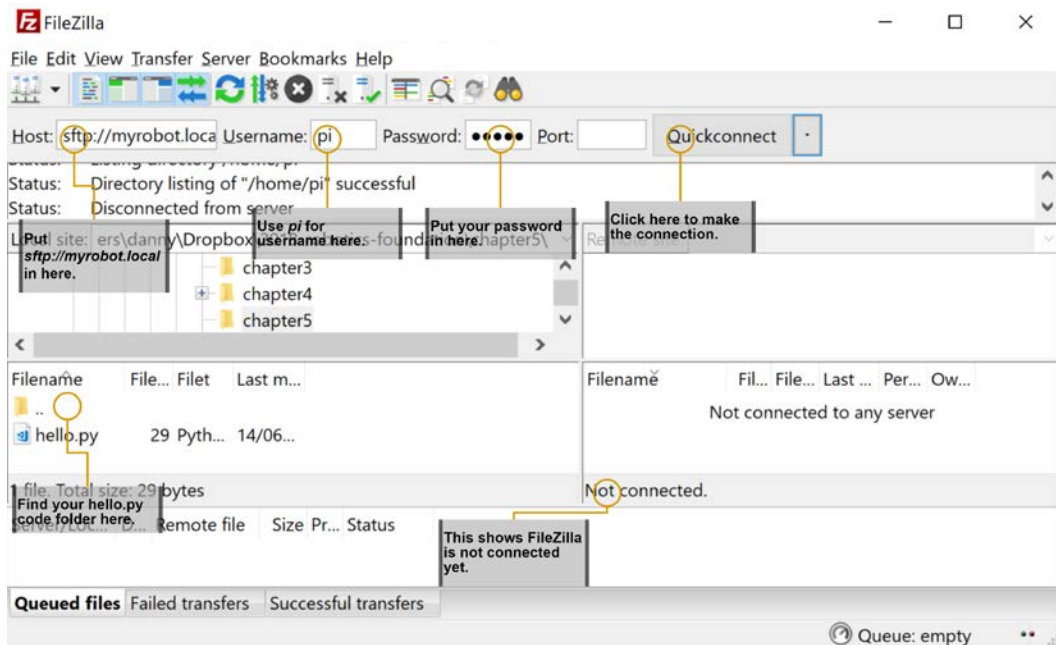

Figure 5.1 – FileZilla
4. Plug in and power up your Raspberry Pi. You will notice at the bottom of the right-hand panel (*Figure 5.1*), FileZilla says **Not connected**.